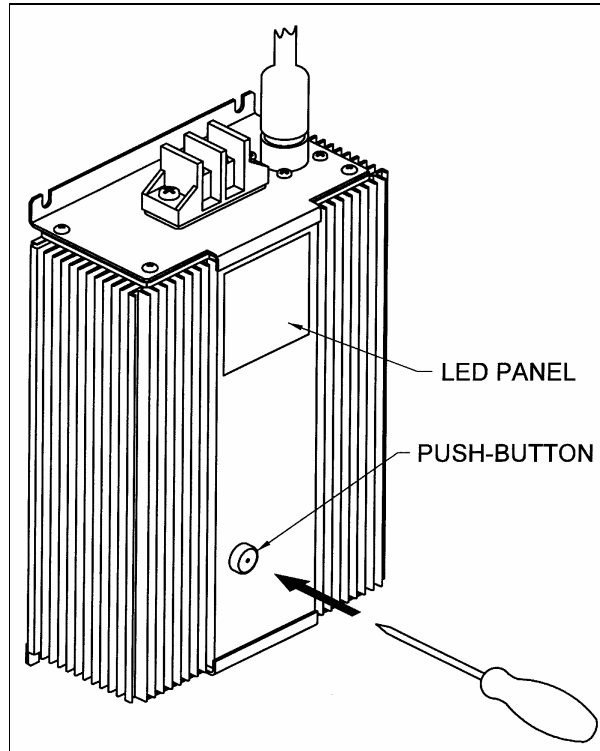

FIGURE 5
4. Memorize the slide-out inner limit by pushing once the logic controller black push-button. The green LED "OUT6" confirms that the stroke limit is set in the logic controller memory (refer to figure 5).
6. Memorize the slide-out outer limit by pushing once on the logic controller black push-button. The green LED "OUT6" confirms that the stroke limit is set in the logic controller memory (refer to figure 5).